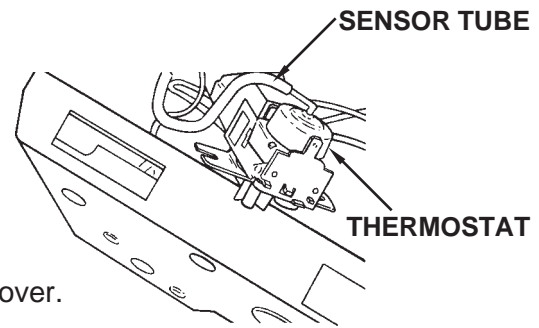

Fig. 29
When removing the thermostat the sensing tube will also have to be removed. The sensing tube is routed back to the defuser. To access the sensing tube, remove the two (2) screws securing the defuser cover. (Fig. 29)